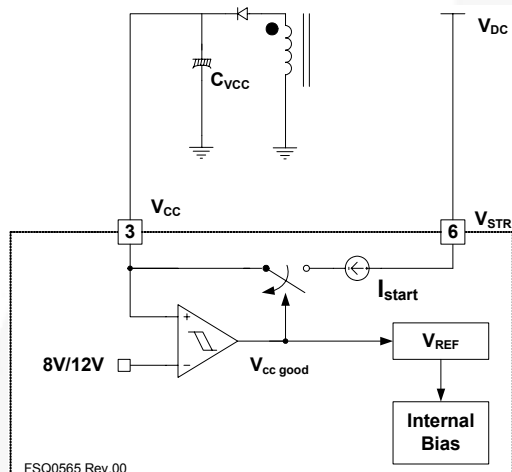

Figure 23. Startup Circuit
1. Startup: At startup, an internal high-voltage current source supplies the internal bias and charges the external capacitor (C_a) connected to the V_{CC} pin, as illustrated in Figure 23. When V_{CC} reaches 12V, the FPS™ begins switching and the internal high-voltage current source is disabled. The FPS™ continues its normal switching operation and the power is supplied from the auxiliary transformer winding unless V_{CC} goes below the stop voltage of 8V.